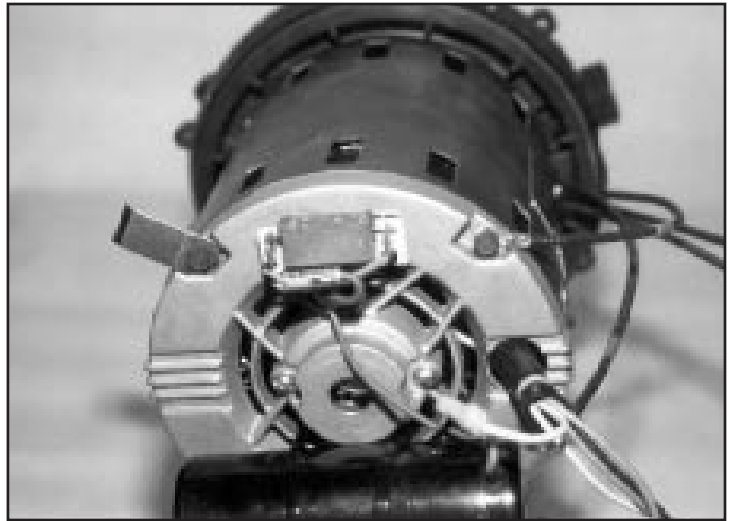

Figure X-21 Ground wire lug and ground contact installation.
8. Pull one of the motor bolts and slip the ground lug over it then reinstall. (Fig. X-21)
9. Pull a different motor bolt, and install a ground contact (P/N:C2-510) over the bolt. (Fig. X-21)